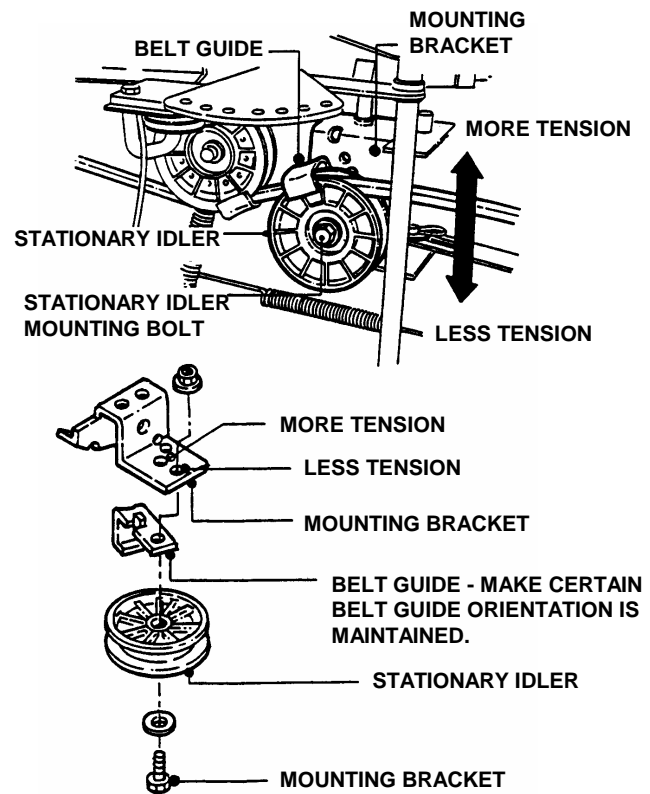

FIGURE 4.11
4. Remove the traction drive belt stationary idler mounting bolt. See Figure 4.11.
**NOTE:** Note the orientation of belt guide and make certain it remains in the same orientation after moving idler. Should less tension be required move stationary idler towards right side of tractor. See Figure 4.11.